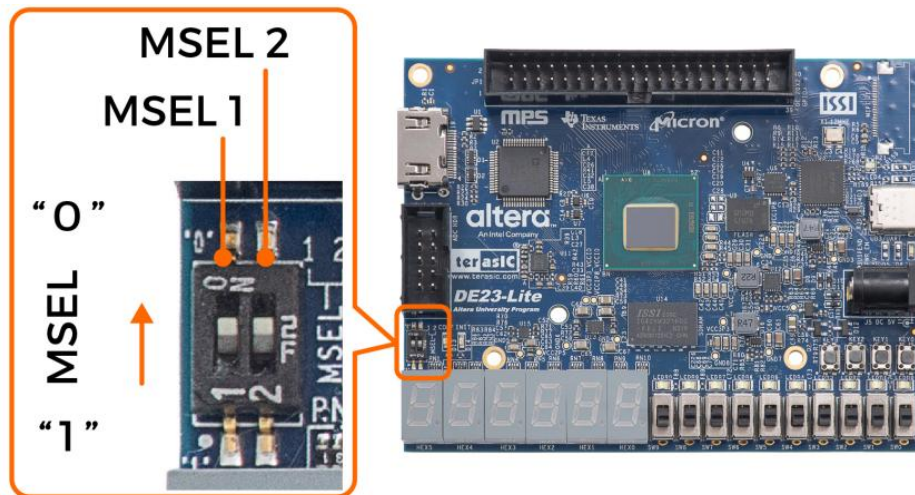

Figure 3-1 DIP switch (SW10) setting of Active Serial (AS) mode on DE23-Lite board
When the DE23-Lite board is powered on, the FPGA is configured from QSPI Flash. The MSEL[2:1] switches are used to select the configuration scheme, implemented as a 2-pin DIP switch SW10 on the DE23-Lite board, as shown in **Figure 3-1**.
Figure 3-1 shows MSEL[2:1] setting of Active Serial (AS) Fast mode, which is the default setting on the DE23-Lite. When the board is powered on, the FPGA is configured from QSPI Flash, which is pre-programmed with a default configuration.